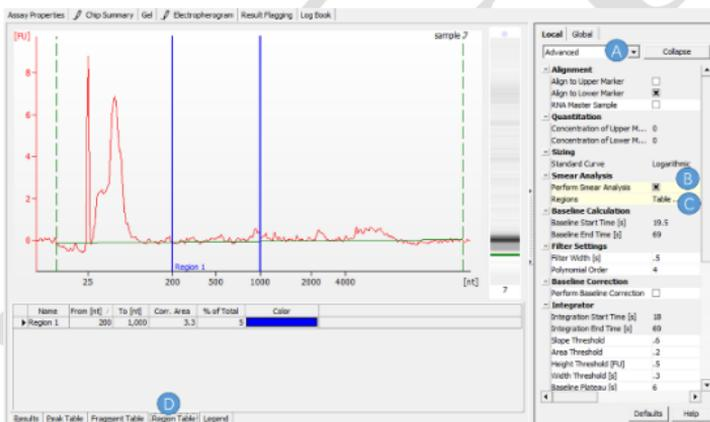

Figure 1 The Calculation of DV200
- Before proceeding with library preparation, use an Agilent 2100 Bioanalyzer to perform quality control checks of RNA samples. DV200 can be used for assessing the quality of RNA samples and determining the condition of library construction (Table 5). The DV200 indicates the proportion of RNA fragments larger than 200 nt in the sample. Take the analysis result from Agilent 2100 Bioanalyzer trace below as an example for the DV200 calculation. Detailed calculation is shown in Figure 1: